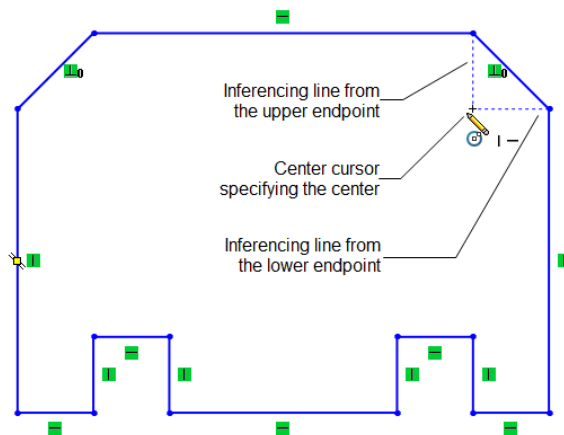

Figure 2-71 Drawing a circle with the help of inferencing lines
- Draw circles and sketch of inner cavity, refer to Figures 2-71 through 2-73.
3. Move the circle cursor close to the lower endpoint of the right inclined line and then move it toward the left. Remember that you should not press the left mouse button at this moment. An inferencing line is displayed originating from the lower endpoint of the right inclined line. On moving the cursor toward the left, you will notice that another inferencing line originates at the point where the cursor is vertically in line with the upper endpoint of the right inclined line. This inferencing line will intersect the inferencing line generated from the lower endpoint of the inclined line, refer to Figure 2-71.